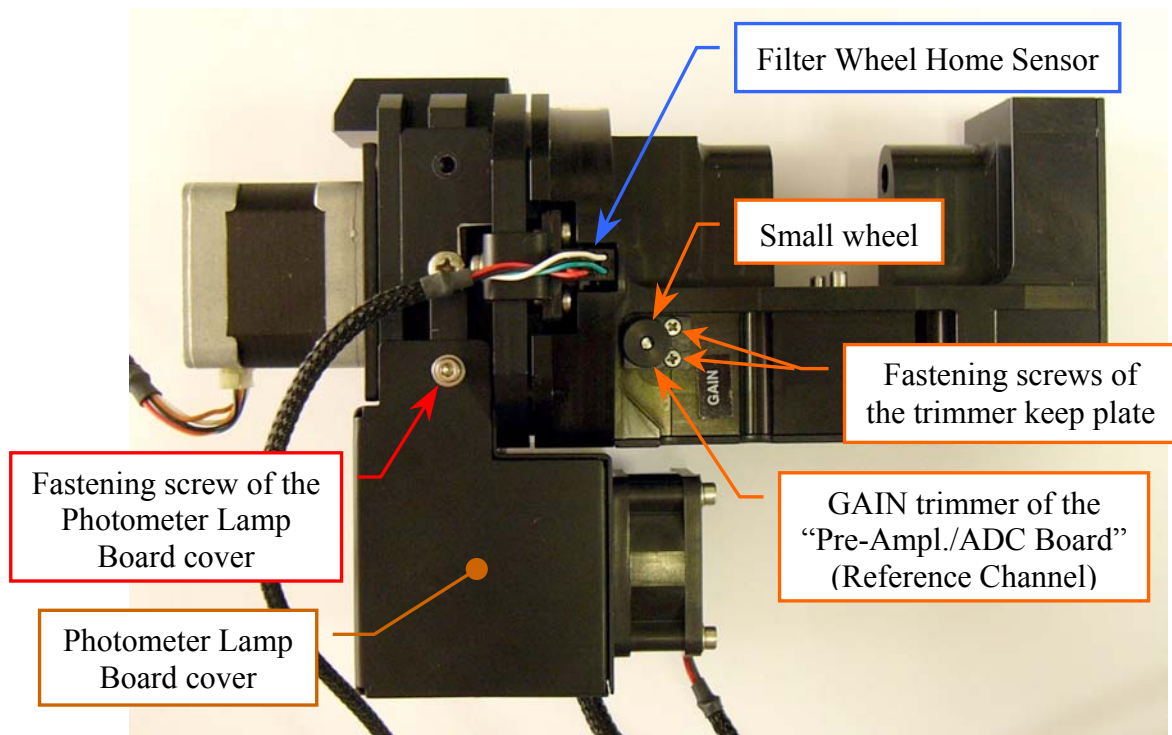

Fig. 62 – GAIN trimmer of the “Pre-Ampl./ADC Board” (Reference Channel)
16. Make sure that the counts value of the filter which transmits the highest signal (for the Reference Channel) is between **53.000** and **57.000**. If it not be so, turn the GAIN trimmer of the "Pre-Ampl./ADC Board (Reference Channel)" in order to set the correct counts value (**Fig. 62**).
7. Unscrew the two fastening screws of the “Photometer Lamp Board” cover (**Fig. 62**) and take out it from the Photometer (note well: in this mode – contemporaneously – take out from the Photometer the “Photometer Lamp Board” and the Photometer Fan obtaining the Optic Assy).
2. Unscrew the two keep plate screws of the external small wheel of the GAIN Trimmer of the Reference Channel board (**Fig. 62**), then remove the small wheel (together with its keep plate) from its hole.
8. Replace the external small wheel in the hole of the GAIN Trimmer of the Reference Channel board, make sure that the small wheel has a grip on the board trimmer screw and screw the two small wheel keep plate screws (**Fig. 62**).